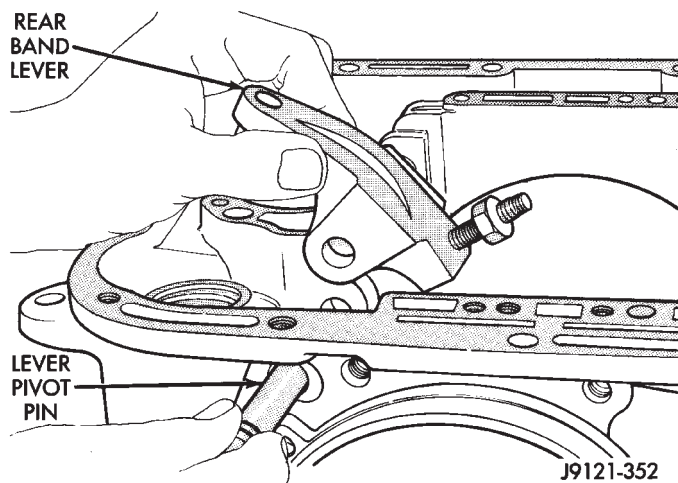

Fig. 151 Rear Band Lever And Pivot Pin Installation
(16) Install rear band lever and pivot pin (Fig. 151). Align lever with pin bores in case and push pivot pin into place.